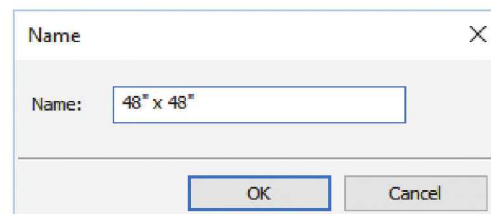

FIGURE 5-4.13 Name new family type
17. For the name of the new *Type*, enter: **48"x 48"** and then click **OK** (Figure 5-4.13).